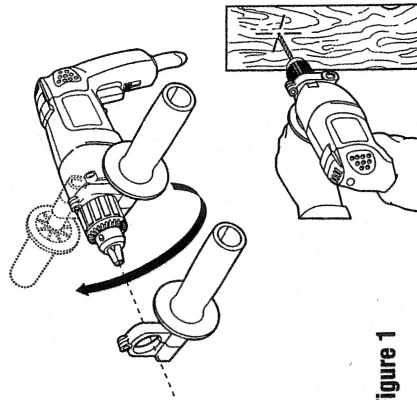

Figure 1
**CAUTION:** Always use side handle when provided and hold drill with both hands. A side handle is supplied with all 1/2" and some 3/8" drills. In most cases, it clamps to the front of the gear case as shown in Figure 1 and can be rotated 360° to permit right or left hand use.